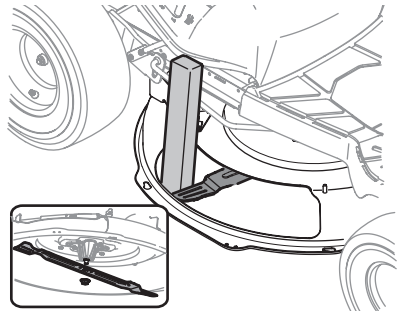

Figure 38
2. Using a block of wood at least 2" x 4" (51 mm x 102 mm), insert it into the deck opening and rotate the blade around until it wedges the wood between the deck opening and the cutting blade (Figure 38).
3. Remove the hex flange nut that secures the blade to the spindle assembly (Figure 38 inset).